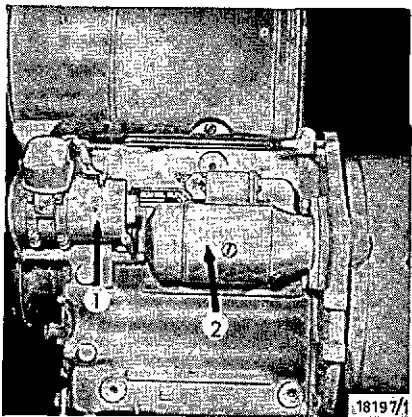

Fig. 31
Every 600 running hours it is advisable to have the generator 1 (Fig. 31) checked in a specialized workshop.
**Every 1200 running hours**, the starter motor 2 (Fig. 31) should be checked if frequently used.